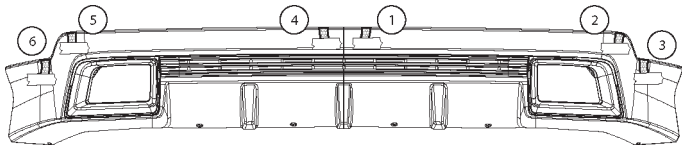

FIGURE 15
25. Attach tape leader tabs to the outside of the part. Refer to figure 15.